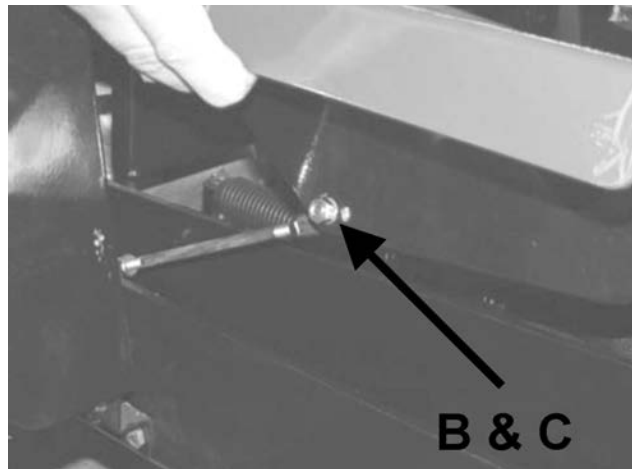

FIGURE 2
4. Lift the foot plate up a few inches and remove one nut **B** and lock washer **C** from the foot pedal. **Figure 2**